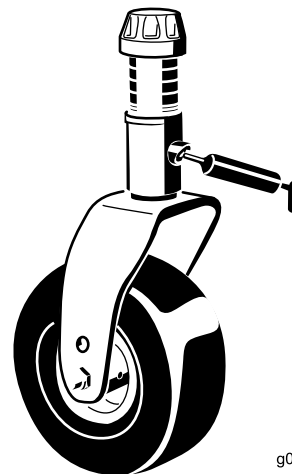

Figure 49
- Castor fork shaft bushing (1 each) (Figure 49)
- Spindle shaft bearings (4)
- Idler arm pivot bushings (1) (located on the idler arm)